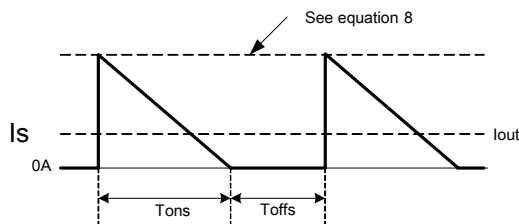

Figure 13. Secondary Current Waveform
The AP3706 is designed to work in constant-current (CC) mode. Figure 13 shows the secondary current waveforms.